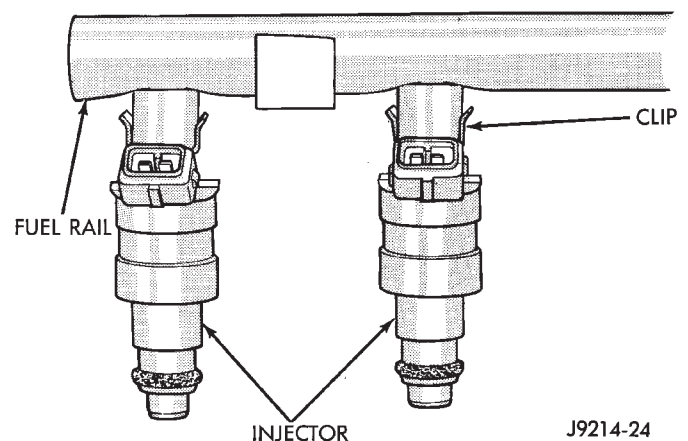

Fig. 4 Fuel Injector and Retaining Clip
- (1) Remove air duct at throttle body.
- (2) Remove fuel rail assembly. Refer to Fuel Rail removal in this section.
- (3) Remove the clip(s) retaining the injector(s) to fuel rail (Fig. 4).